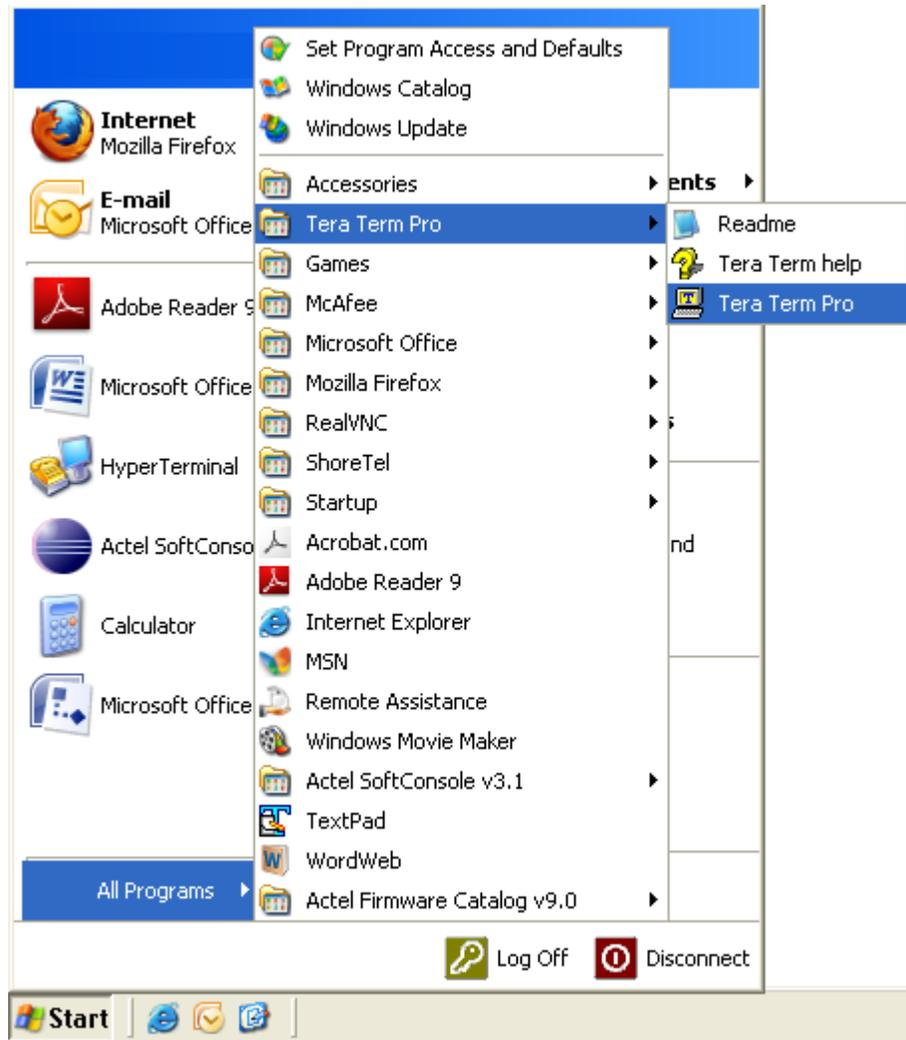

Figure 7: Invoking Tera Term Pro
1. After installing Tera Term Pro, click the Windows **Start** menu. Select **All Programs > Tera Term Pro** and click the **Tera Term Pro** program (Figure 7). This displays the Tera Term Pro screen.